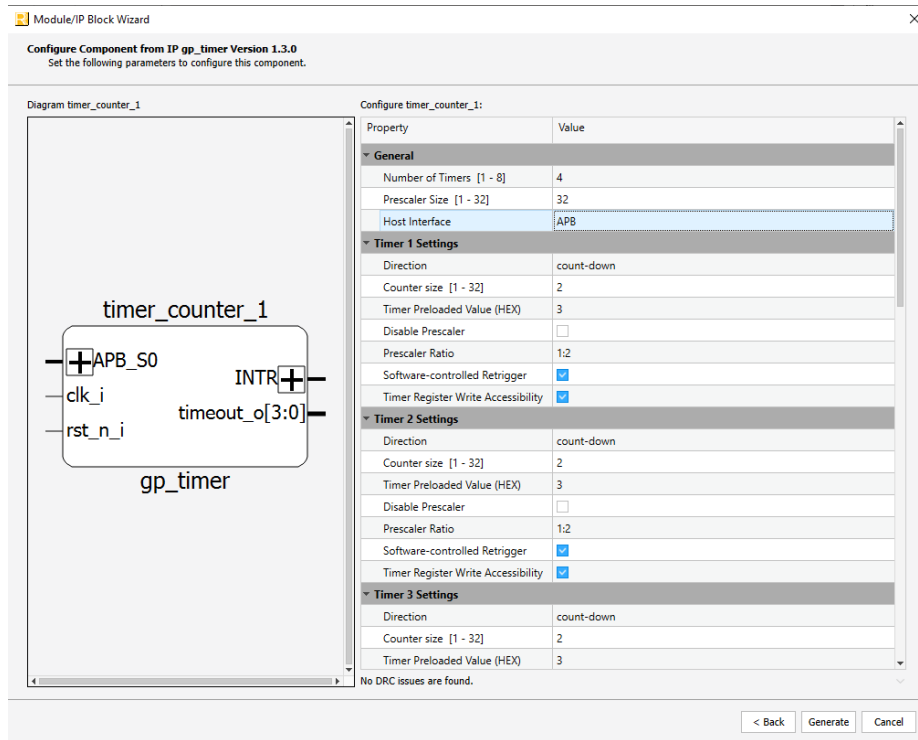

Figure 3.2. Configure User Interface of the Timer-Counter Module
- In the module's dialog box of the **Module/IP Block Wizard** window, customize the selected Timer-Counter module using drop-down menus and check boxes. As a sample configuration, see Figure 3.2. For configuration options, see the Attribute Summary section.